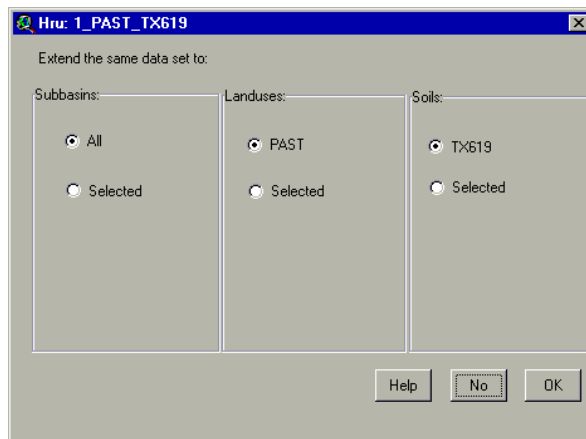

Figure 12.24
4. If the user saves the modified values, once the values are saved for the HRU (by clicking **OK** in Step 3), a new dialog box is displayed allowing the user to copy the modifications to other HRU data sets (Figure 12.24).